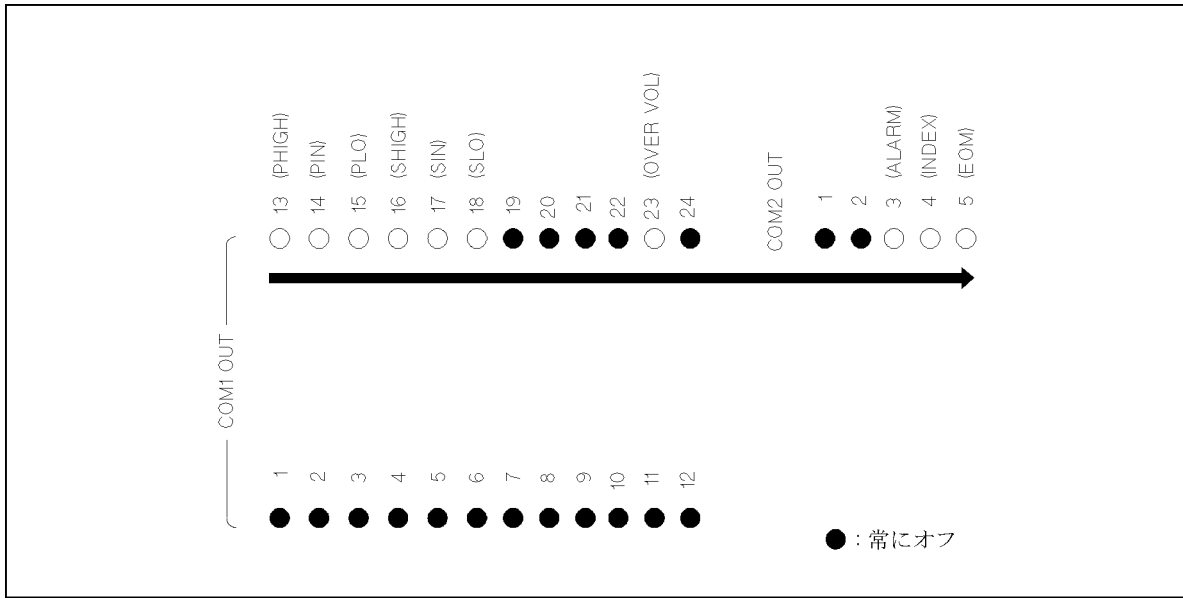

Figure 9-5. Handler interface Output Order
13. Confirm that the LEDs on the Handler Interface Tester light in the order shown in Figure 9-5, in accordance with the HP 4338B display.